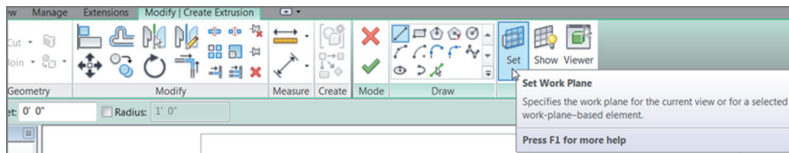

FIGURE BC2.16: Clicking the Set Work Plane button
3. In the Work Plane panel, click the Set button, as shown in Figure BC2.16.